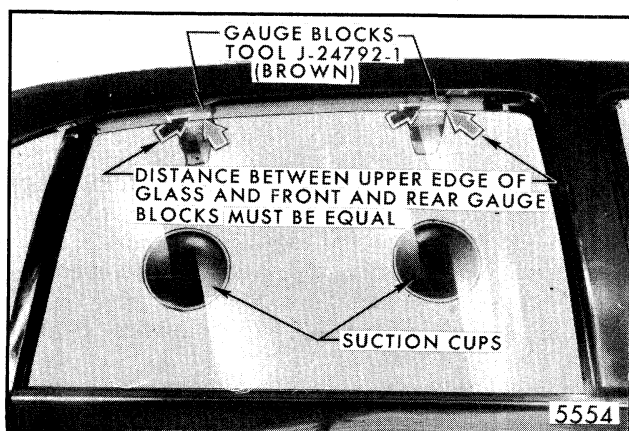

Fig. 5-142-Rear Door Window-Rotated ("Cocked") Glass Alignment - "A-29, 35" Styles
3. Lower rear door window and install gauge blocks, tool J-24792 or equivalent (brown), into the side roof rail weatherstrip retainer (handles protruding inboard), above the upper front and rear corners of the glass as shown in Figure 5-142. Partially raise glass and install suction cups on interior surface of glass (Fig. 5-142) to enable adjuster to shift glass when making adjustments with door in a closed position.
5. Raise the rear door window assembly to approximately 1" from the full-up position as illustrated in Figure 5-142. If the distance (space) between the upper edge of the glass and the front and rear gauge blocks is equal (as shown in Fig.